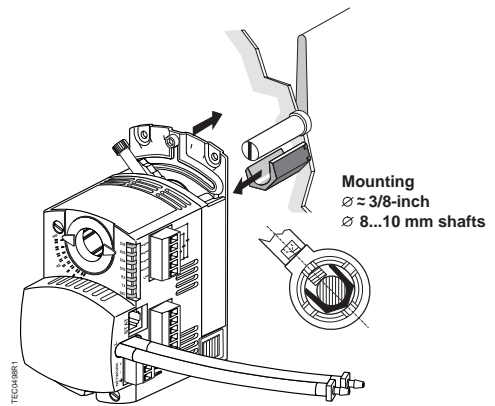

**Figure 3. Removing the 1/2-inch shaft guide.**
a. Remove the 1/2-inch shaft guide, Figure 3.
- Remove the 1/2-inch shaft guide, Figure 3.